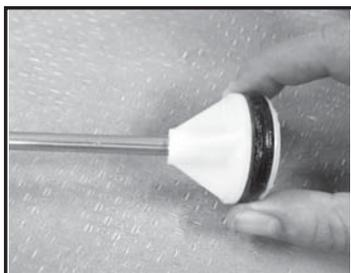

Figure 8
3. Inspect o-ring. If worn or damaged, remove and replace. For Acetone Sprayer lubricate o-ring with Silicone grease and for all others lubricate o-ring with petroleum jelly. **(See Figure 8)**